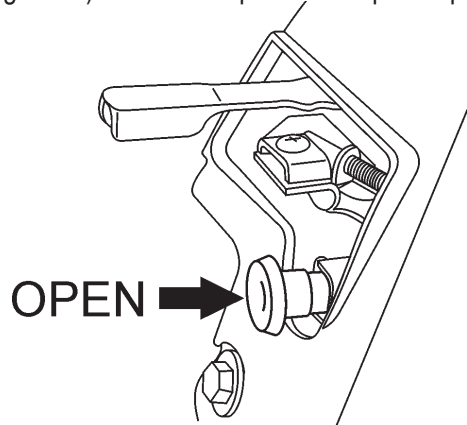

Figure 25. Choke Lever (Open Position)
3. If operating the SP2 slab saw in **cold weather conditions**, skip this step and proceed to step 4. Place the **Choke Lever** (Figure 25) in the **OPEN** position. Skip to step 5.